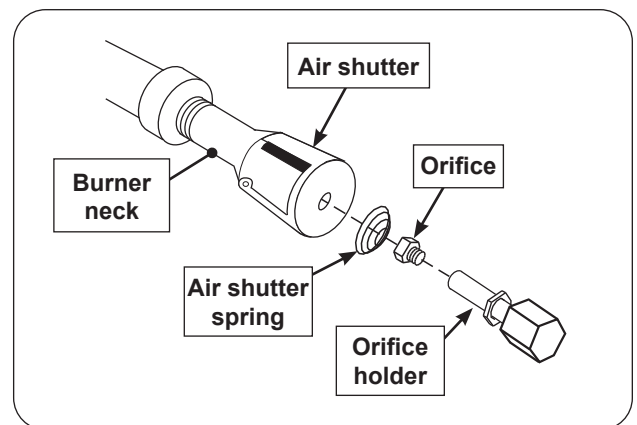

Fig. 45-3 Burner removal diagram
4. To re-install, position the air shutter spring and air shutter over the orifice holder fitting, between the burner and the heat shield, in the order and position shown in Fig. 45-3. Do for both burner necks.